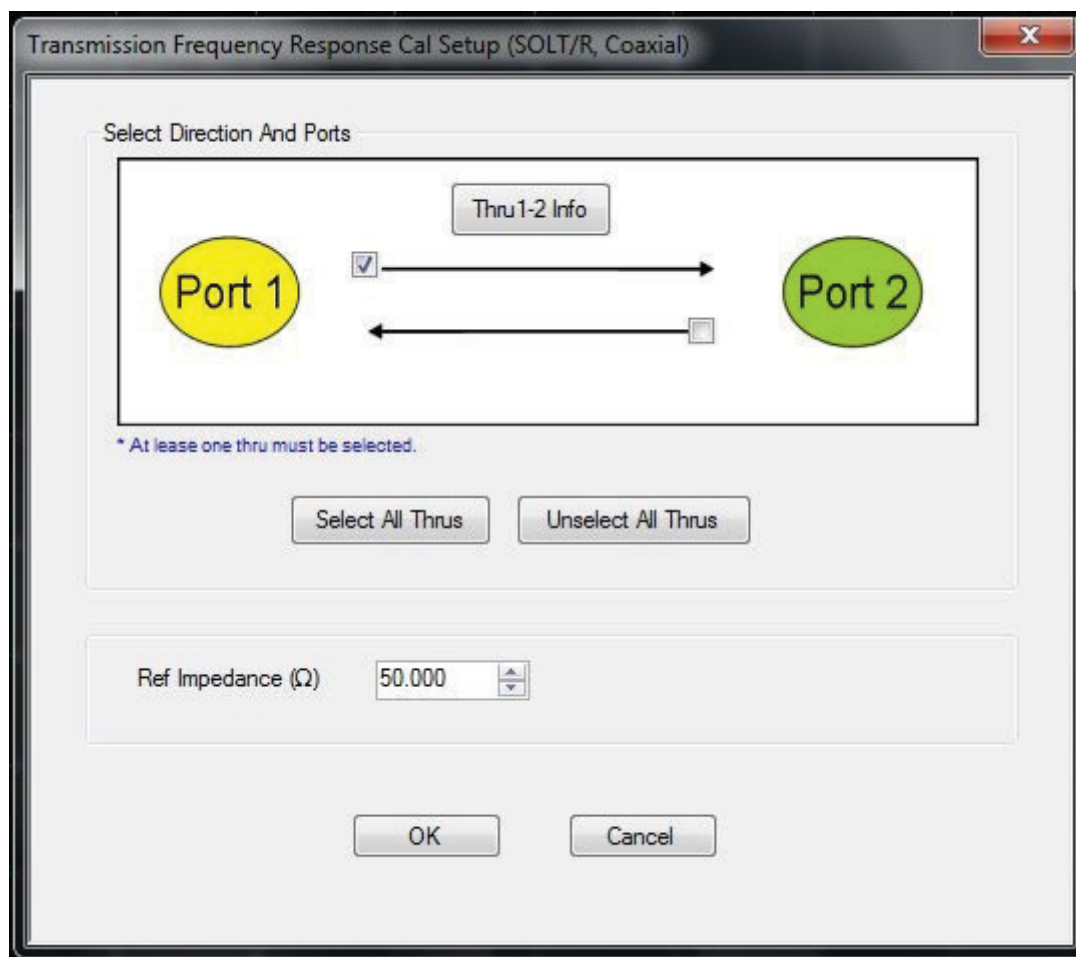

Figure 3-33. TRANSMISSION FREQUENCY RESPONSE CAL SETUP (SOLT/R, Coaxial) Dialog
6. Select Edit Cal Params (see Figure 3-33).